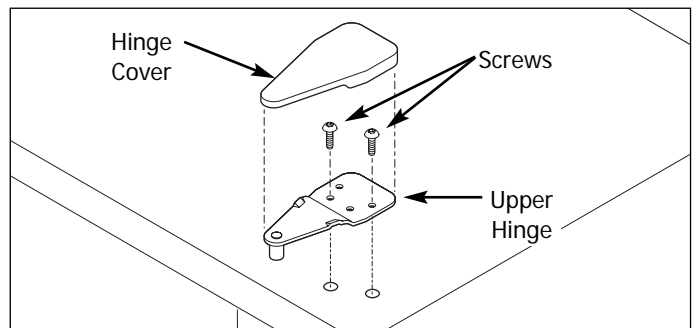

Figure 5-3. Upper Hinge Removal
2. Lift plastic cover off upper hinge assembly. (See Figure 5-3)